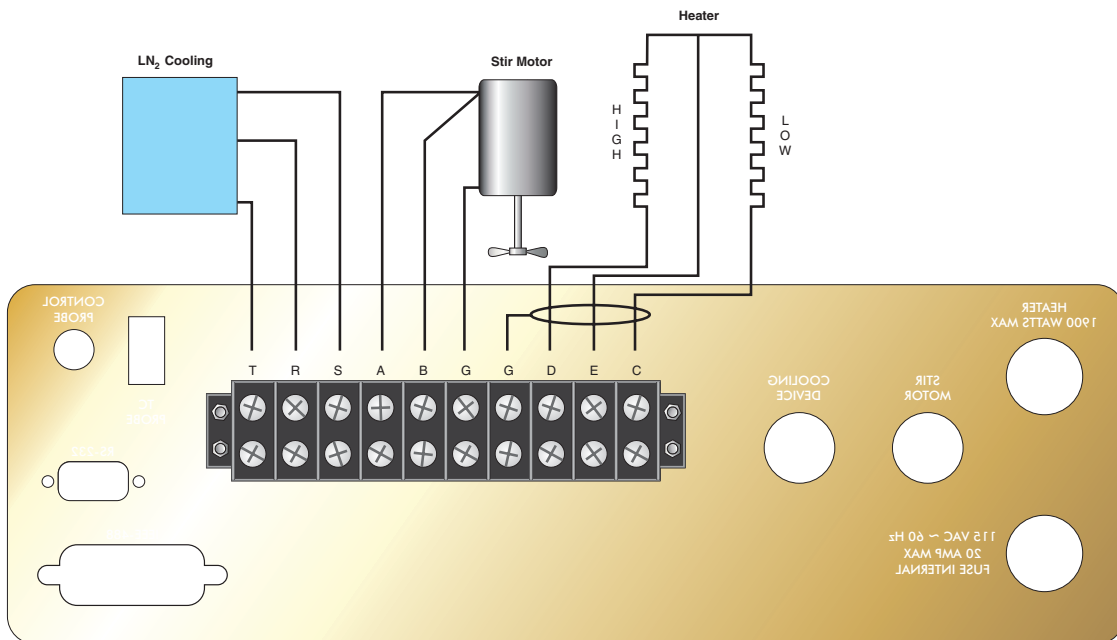

Figure 3 Terminal Block
In order to access the terminal block connectors (Figure 3) for the heater, stirrer motor, and LN₂ Cooling, remove the top cover of the controller.
Connect the stirring device to the back of the controller through the strain relief labeled “STIR MOTOR”. Secure the stirrer to the terminal block at the terminals marked A, B, and G for the stirrer. See Figure 3.
- (5) The heater connector is the source of controlled power for the system heater. This power is switched by the solid-state relay to maintain a constant temperature. To connect the heater, remove the top cover of the controller. The heater cable is fed through the strain relief in the back panel and the spade connectors are attached to the appropriate terminals on the internal terminal block. See Figure 3. The heater control for temperature range is automatic. The automatic system can be manually overridden by turning the heater power to high using the front panel switch.
- (6) The stirrer motor connector is an auxiliary power socket for the stirrer motor. This power is constant. The combined current of the heater, stirrer motor, and LN₂ cooling must not exceed 20 amps. The stirrer motor cable is fed through the strain relief in the back panel and the spade connectors are attached to the appropriate terminals on the terminal block inside the controller. See Figure 3.
- (7) The LN₂ cooling device connector is the source of controlled power for the system LN₂ cooling.
This power is switched by the solid-state relay. The LN₂ cooling alternates with the heater power to maintain a constant temperature. The LN₂ cooling cable is fed through the strain relief in the back panel and the spade connectors are attached to the appropriate terminals on the internal terminal block. See Figure 3.